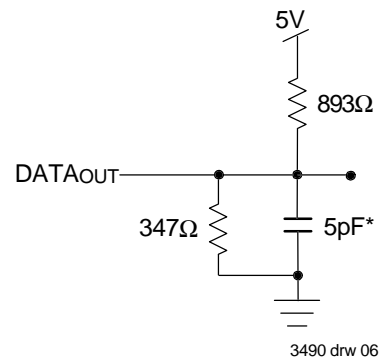

Figure 2. Output Test Load
1. Transition is measured 0mV from Low or High impedance voltage with the Output Test Load (Figure 2).
1. Transition is measured  $\pm 200\text{mV}$  from Low or High-impedance voltage with the Output Test Load (Figure 2).
3. Transition is measured 0mV from Low or High-impedance voltage with the Output Test Load (Figure 2).